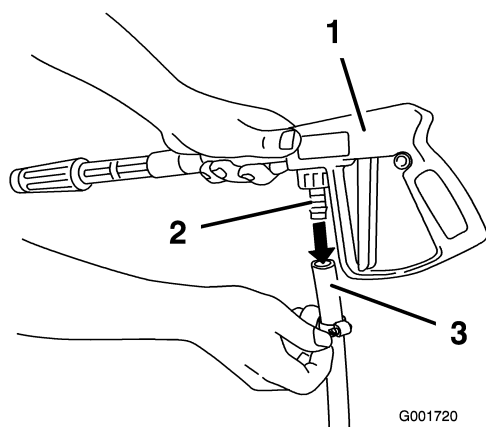

Figure 16
2. Connect the free end of the long hose to the fitting on the spray gun (Figure 16).